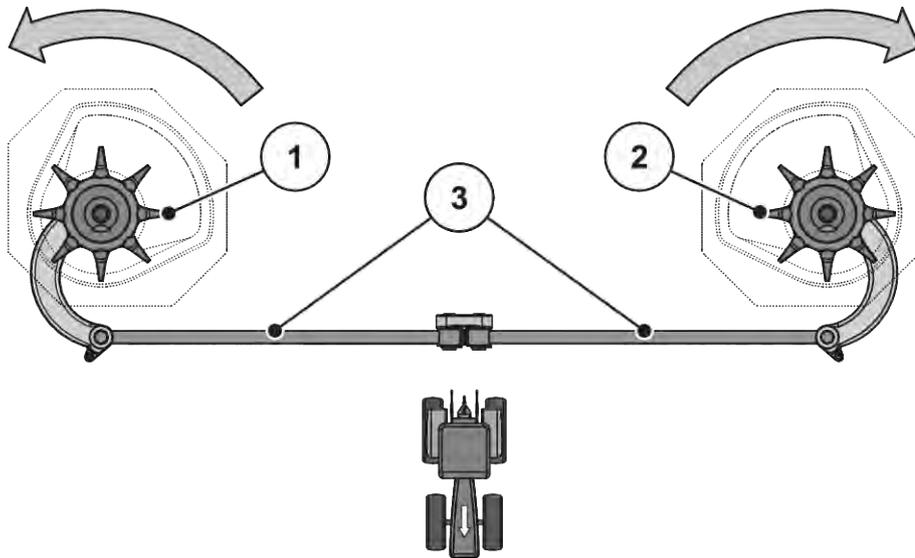

Fig. 85: Checking the agitator drive
- Manually turn the agitator head **into the rotational direction of the spreading disc**. See *Fig. 85 Checking the agitator drive*.
- Turn the agitator head manually or with the help of an oil filter belt forcefully **against the rotational direction of the spreading disc**. See *Fig. 85 Checking the agitator drive*